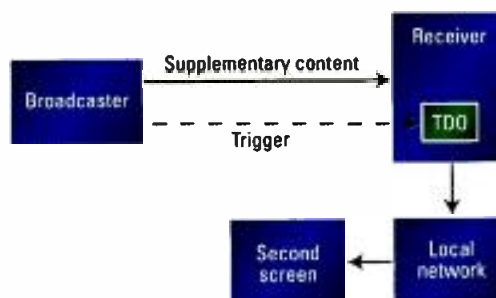

Figure 1. A triggered declarative object (TDO) could be used to push content to a second screen.
A Triggered Declarative Object (TDO) is a downloadable software object created by a content creator or service provider. TDOs may contain program-related text, graphics, scripts and audio. TDOs are sent from a service provider and stored in the iDTV receiver. At a later time, one or more triggers are sent in the broadcast stream, signaling the iDTV receiver to carry out a certain action. (See Figure 1.)
**Figure 1.** Any computer can ask a DNS server to find the IP address for a particular domain name. An answer is given if the server is authoritative for that domain.
applications use IP addresses. As Figure 1 shows, DNS servers resolve a domain name to an IP address. Any computer on the Internet may ask a DNS server to find the IP address for a